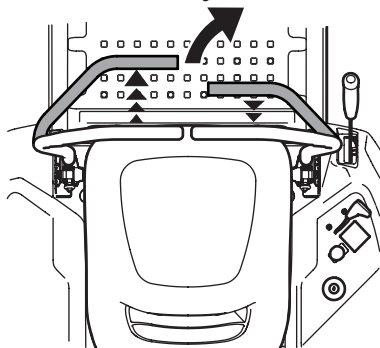

Figure 30
2. To turn to the right, move the right drive control lever rearward of the left lever (Figure 30).